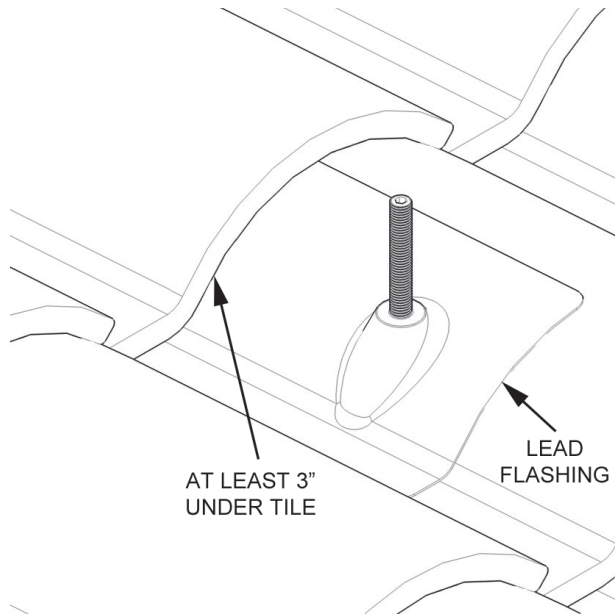

Figure 13.
18. Clean the tile and cover the penetration with the included 12" x 12" 3 Lb. lead flashing. Form the lead flashing to match the contour of the tile. Measure and drill a 3/8" hole in the lead flashing for the location of the 3/8" all-thread. Be sure that there is a minimum of 3" of flashing all the way around the 3/8" all-thread and tuck the up slope end of the flashing a minimum of 3" up under the above tile. See Figure 13.